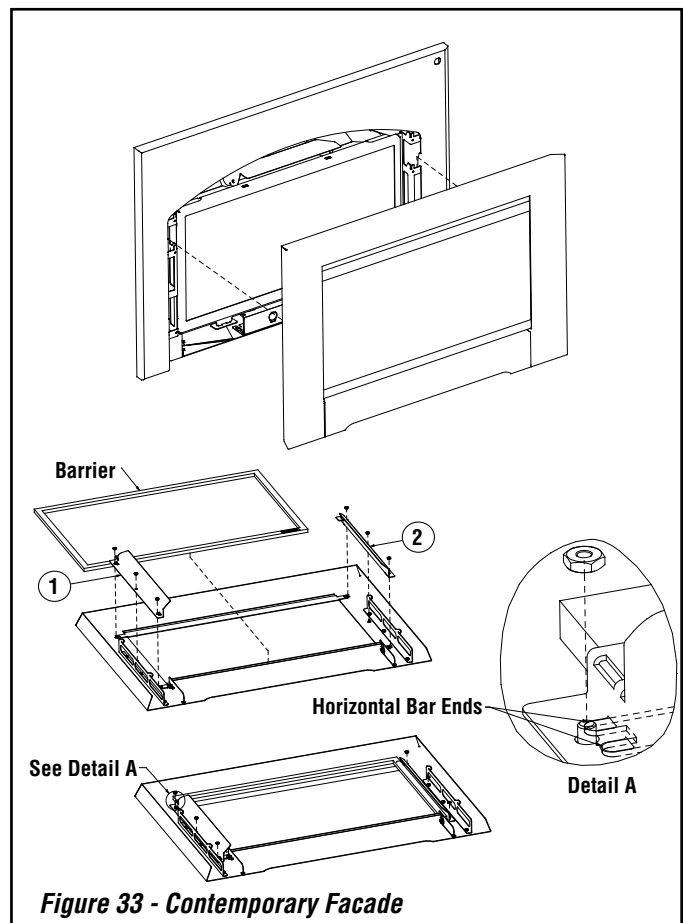

Figure 33 - Contemporary Facade
Contemporary Facade (see Figure 33)
2. Place sight obstructers back over the threaded studs taking note that the upper and lower horizontal bar ends line up with grooves in sight obstructers (see Detail A in Figure 33).